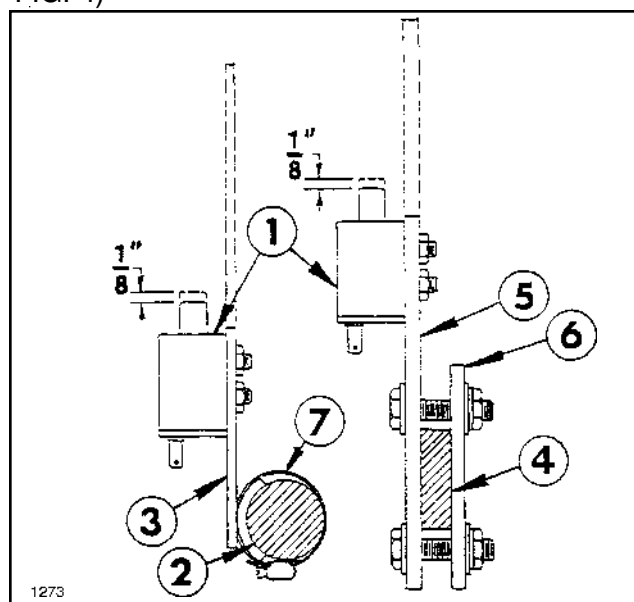

FIG. 4
5. Secure the Brake Switch to the Mounting Strap with two (2) #10 screws, lock washers and hex nuts.
6. If the Tractor's Brake Arm is round, secure the Mounting Bracket Assembly to the Brake Arm with two (2) hose clamps provided. (See FIG. 4)
If the Tractor's Brake Arm is rectangular, place a Mounting Strap on each side of the Brake Arm. Secure the Mounting Straps to the Brake Arm with two (2) 1/4" x 1-1/4" screws, lock washers, hex nuts and four (4) flat washers. (See FIG. 4)